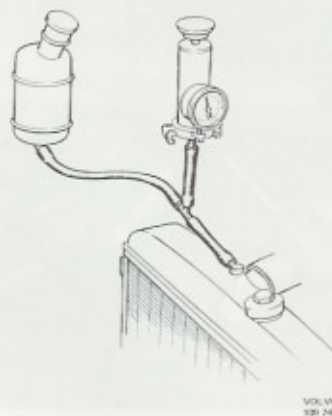

Fig. 26-6. Pressure-testing the cooling system
1. Connect a leakage tester to the cooling system between the hose from the expansion tank and the radiator, Fig. 26-6. Use a T-nipple and two hoses for connecting up. With this also check the valve for overpressure in the expansion tank cap. The valve should be pressed up from its seat and should open when the pressure in the cooling system exceeds 70 kPa (0.7 kp/cm2 = 10 lbf/in2)